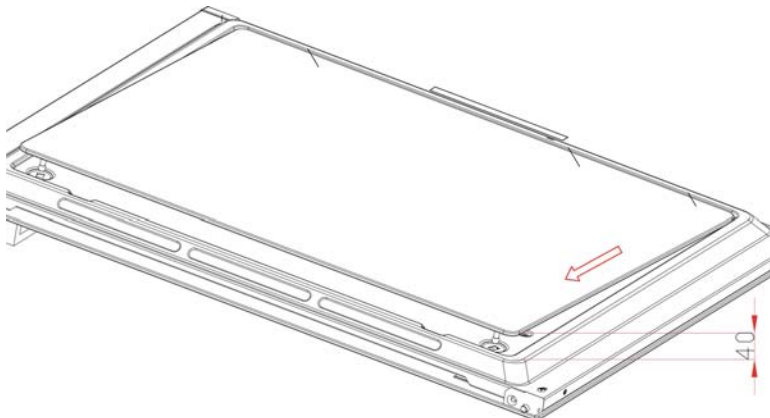

Fig.12-4
- c) make the glass on the postion of with about 40mm height, DO NOT take it too high as it will broken the frame. Then pull it glass out with the direction as fig.12-4. In this way, it is easy to clear the glass of oven door.